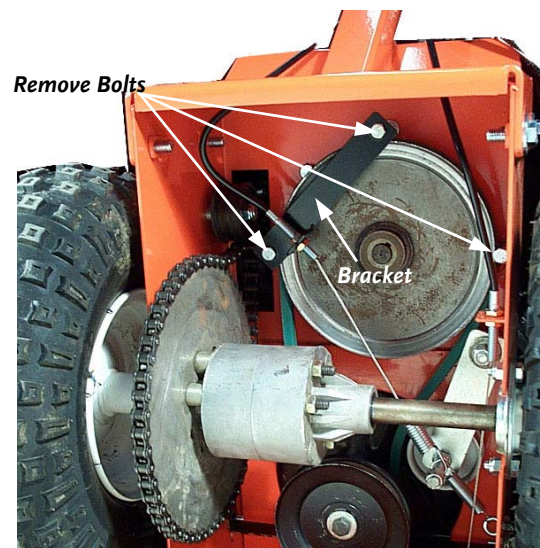

Figure 16
5. With the machine on its side, remove the two (2) Bolts, the Clutch Cable Bracket, and the third Belt Guide Bolt to the right of the Pulley (**Figure 16**).